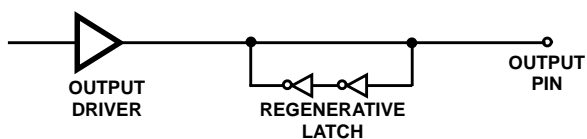

FIGURE 10. OUTPUT DRIVER AND LATCH FOR PINS AD0-AD7, A8-A15 AND IO/M.
1. An important caveat that is applicable to CMOS devices in general is that unused inputs should never be left floating. This rule also applies to inputs connected to a tri-state bus. The need for external pull-up resistors during tri-state bus conditions is eliminated by the presence of regenerative latches on the following HS-80C85RH output pins: AD0-AD7, A8-A15, and IO/M. Figure 10 depicts an output and corresponding regenerative latch. When the output driver assumes the high impedance state, the latch holds the bus in whatever logic state (high or low) it was before the tri-state condition. A transient drive current of approximately $\pm 1.0\text{mA}$ at 0.5 VDD for 10nsec is required to switch the latch. Thus, CMOS device inputs connected to the bus are not allowed to float during tri-state conditions.